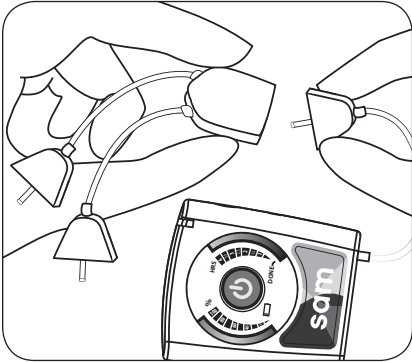

figure 8*: Connecting Y-Adapter
The Y-adapter (optional) may be used to power two Applicators simultaneously. As shown in Figure 8, connect the Y-adapter directly to the Power Controller wire and then connect each Applicator to a wire jack at the other end of the Y-adapter.
** If using 2 applicators: first connect the Y-adapter directly to the power controller wire jack and then connect each applicator to a wire jack at the other end of the Y-adapter (Figure 8*).*